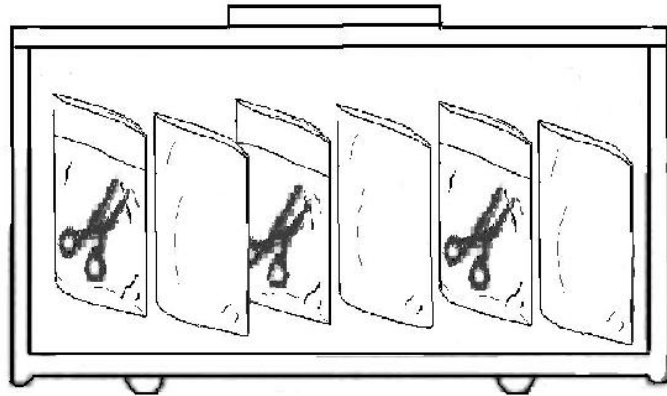

Figure 172
**WARNING:** If implements are packed with sterilizing pouches and placed inside a sterilization box, make sure to display items as shown in Figure 172.